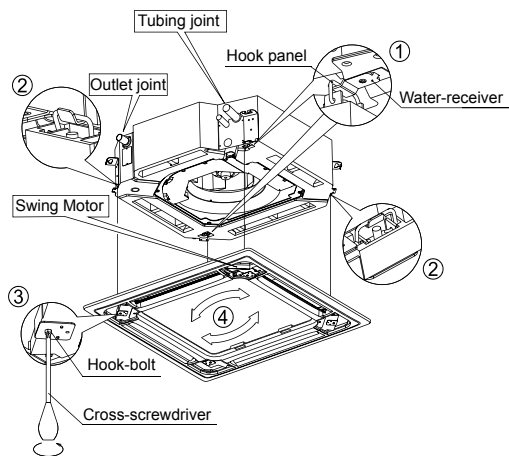

Fig.5-12
- Align the swing motor on the panel to the tubing joints of the body properly. (Refer to Fig.5-12)